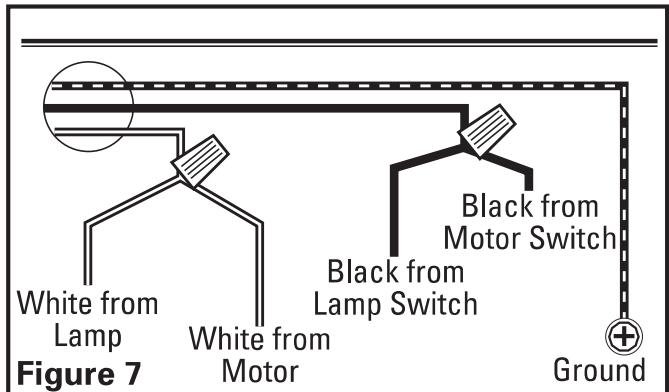

Figure 7
- Connect the 2 loose White wires from the range hood to the White wire from the supply, and the 2 loose Black wires from the range hood to the Black wire of the supply. Connect the ground wire (green or bare) from the supply to the green ground screw of the hood. Use approved methods for all connections (**Figure 7**).